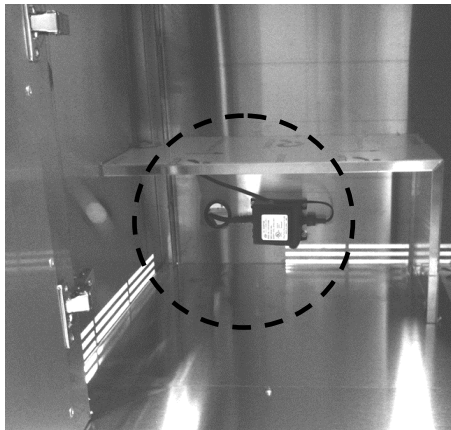

Fig. 1
- In a base cart application, four mounting screws with nuts are provided at the bottom left rear corner of the cart. If not provided, drill four holes using the transformer box as a template. Secure the transformer box as shown. (Fig. 1)